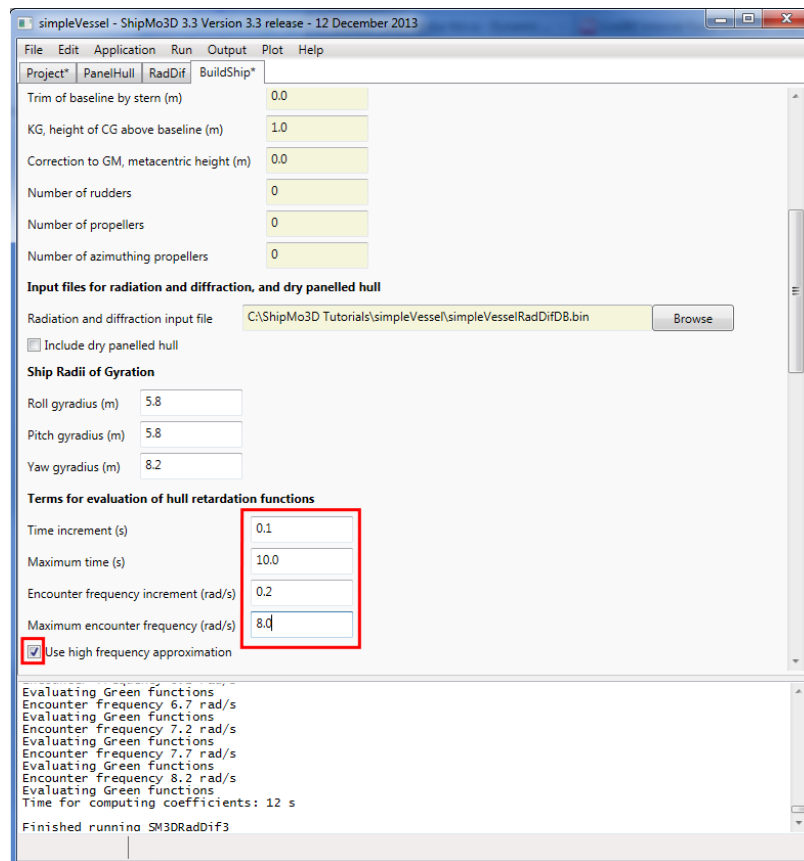

Figure 39: The BuildShip application’s pane highlighting the parameters required to compute the retardation functions.
- ✪ Under the “Terms for evaluation of hull retardation functions” section, set the time increment to 0.1s, the maximum time to 10.0s, the encounter frequency increment to 0.2rad/s and the maximum encounter frequency of 8.0rad/s as shown in Figure 39, including adding a check mark to “Use high frequency approximation”.